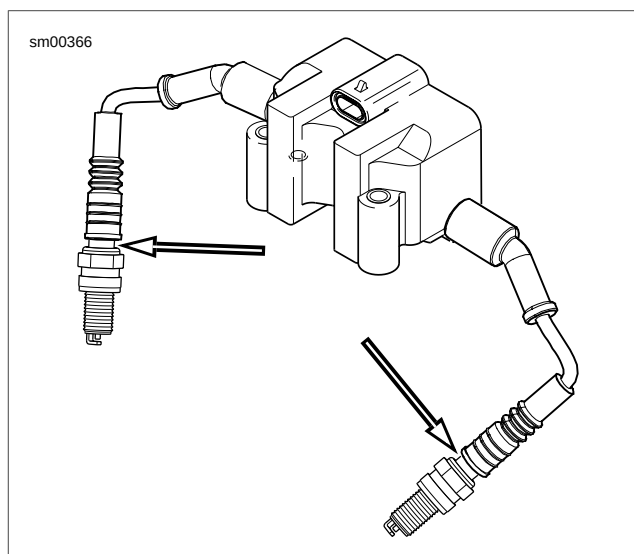

Figure 7-16. Boot Gap
- See Figure 7-16. When assembling the spark plug boots onto the spark plugs, make sure the boot is slid all the way down over the spark plug insulator. The gap should not exceed 1/8 in. (3.2 mm).